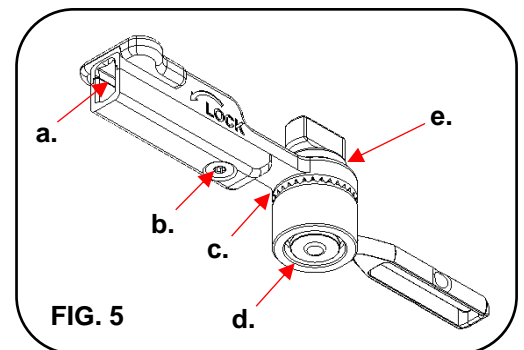

FIG. 5
2. Use a plastic-bristled brush to thoroughly scrub the device's exterior surfaces, paying special attention to the following (FIG. 5):